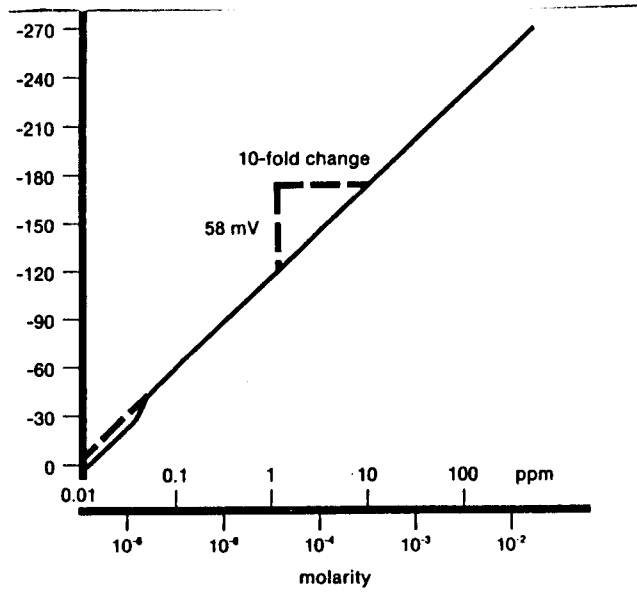

Figure 3-1 Typical Cyanide Electrode Calibration Curve
5. Using the semi-logarithmic graph paper, plot the mV reading (linear axis) against concentration (log axis). A typical calibration curve can be found in Figure 3-1.
Use the following low-level cyanide measurement procedure in the non-linear portion of the calibration curve (below 8×10^{-6} M or 0.2 ppm). See Figure 3-1. A more accurate electrode indicator technique, such as titration, using a sulfide/silver ion selective electrode, may be preferred below these levels.
4. Plot the concentration (log axis) against the concentration (linear axis) as in Figure 3-1. A new low level calibration curve should be prepared daily using fresh standards.
The electrodes respond to cyanide in the sample as well as to ions dissolved from the membrane at low levels. The electrode membrane shows a very slight water solubility. The detection limit of the electrode is determined by this factor. Figure 3-1 shows the theoretical linear response—the dashed line—in comparison with the actual response (solid line). The response to the dissolved membrane accounts for the discrepancy between the curves. The low-level procedure is recommended if measurements are to be made in the non-linear region below
Plotting the electrode mV potential against the cyanide concentration on semi-logarithmic paper results in a straight line with a slope of about 58 mV per decade. Refer to Figure 3-1.